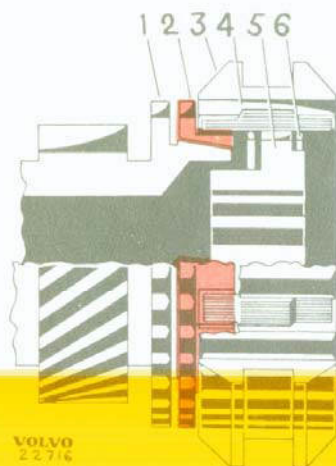
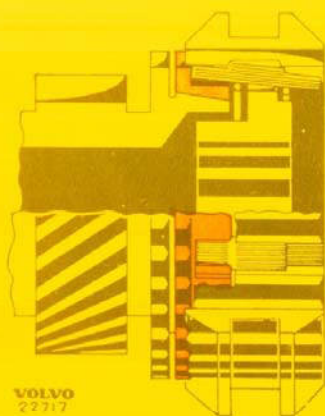
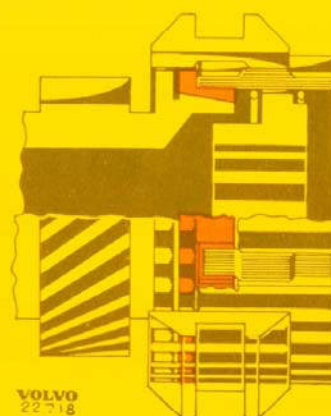

Fig. 3-8. Neutral position
Fig. 3-9. Synchronizing
Fig. 3-10. Gear engaged
The design and function of the synchronizing mechanism is shown in Figs. 3-8–3-10. When a gear is engaged, the engaging sleeve (3, Fig. 3-8) is pressed by the shift fork in the direction of the gear wheel concerned. The actuators (4) then press the synchronizing cone (2) against the cone on the ring gear (1). If the synchronizing mechanism and gear wheel have different speeds of rotation, the synchronizing cone will turn in relation to the engaging sleeve. The synchronizing cone is prevented by the actuators from being turned more than half a tooth width, see Fig. 3-9. The teeth of the synchronizing cone will then contact the engaging sleeve teeth at half a tooth width and thus prevent meshing from taking place. By means of friction between the synchronizing cone and the cone on the gear wheel, the gear wheel will assume the same speed of rotation as the synchronizing mechanism. When they have reached the same speed, the engaging sleeve causes the synchronizing cone to turn backwards and the gear can be engaged, see Fig. 3-10.